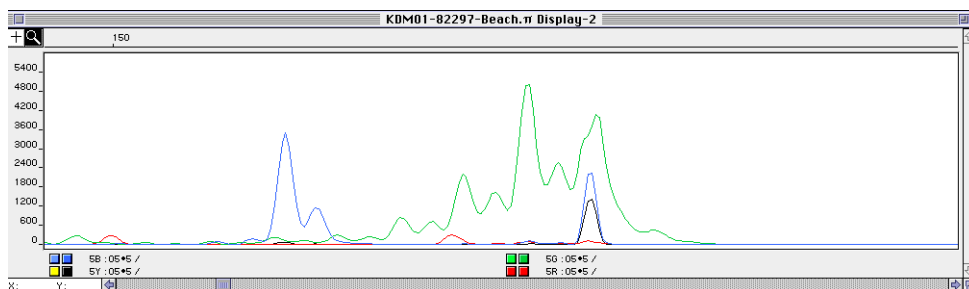
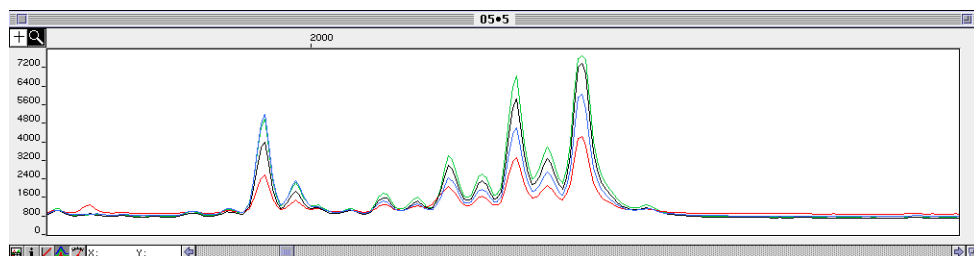

Figure 6-1 Characteristic appearance of bleedthrough peaks
Figure 6-2 Raw data from the bleedthrough example shown in Figure 6-1
Bleedthrough peaks are small peaks of one color lying directly under a large peak of another color even though there is no PCR product corresponding to the smaller peak. As shown Figure 6-1, the large-peak signal is “pulling-up” peaks in other colors.
- ◆ The signal from the large peak is off-scale because of sample overloading. In the example shown in Figure 6-1, the peak showing bleedthrough is actually off-scale (Figure 6-2).